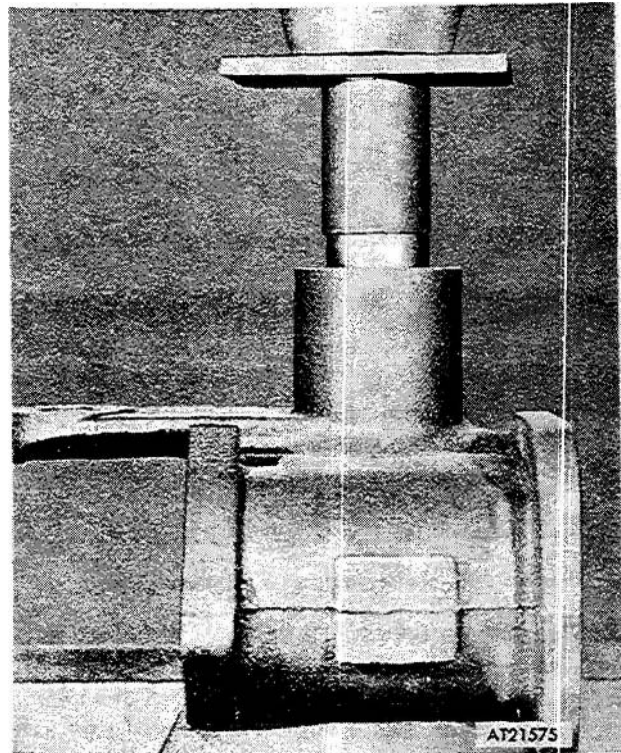
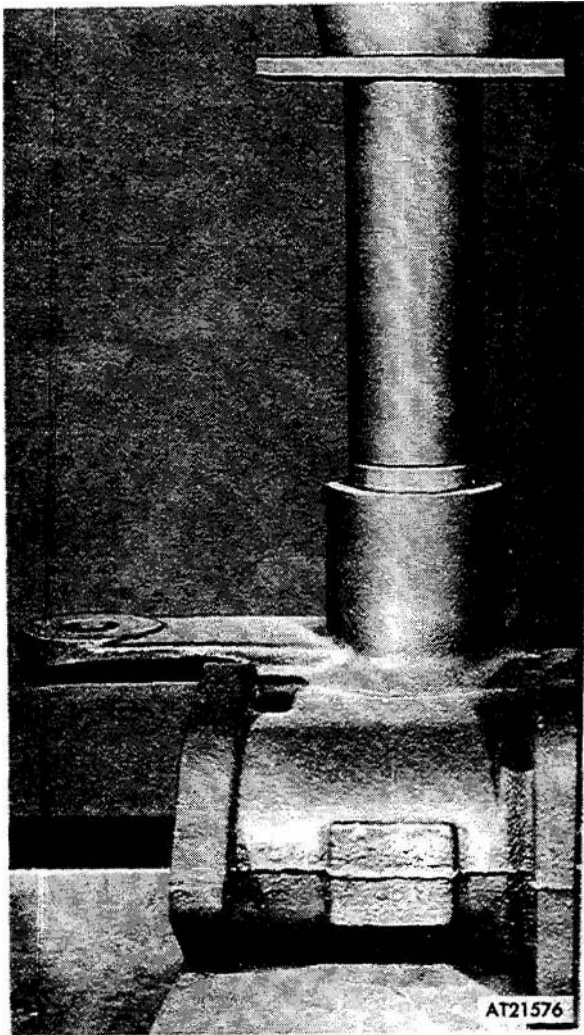

Figure 3-202. Pressing bushing into worm gear housing.
Figure 3-203. Pressing seal into worm gear housing.
(1) Press one bushing (19, fig 3-195) into housing (18) until it is just below the seal retaining shoulder (fig. 3-202). Turn housing (18, fig 3-1.95) over and press remaining bushing (19) into housing until it is flush with housing. Press seal (20) into housing (fig. 3-203).